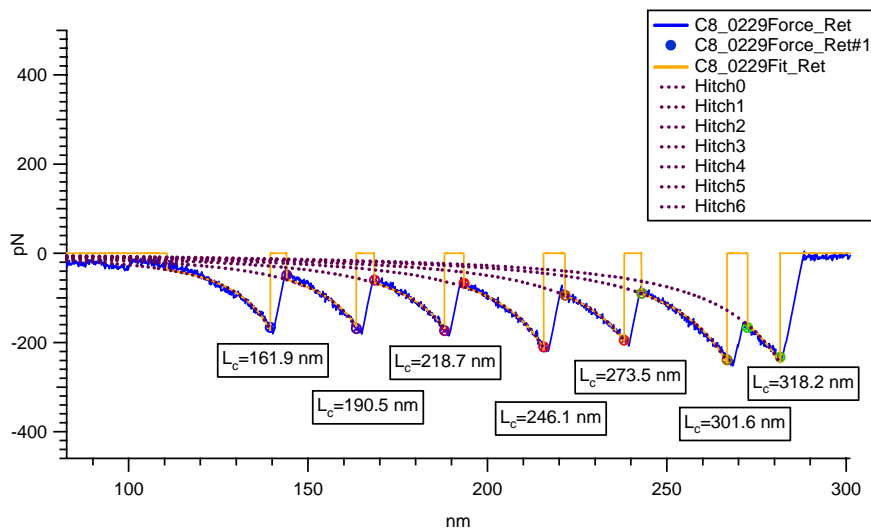

Figure 11.5.2F4: Fit WLC model on Titin construct sawtooth dissociation force curve. Single Pers was used.
•Once the fit is complete, it will have labels and fit functions similar to Figure 11.5.2F4. The values of the hitch columns can be shuttled using the arrow buttons in the WLC tab (red circle Figure 11.5.2F3).